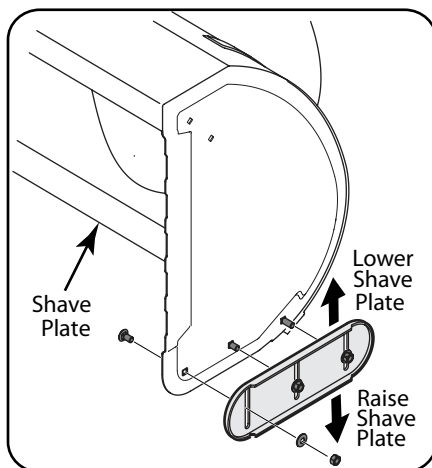

Figure 3-10
1. Adjust skid shoes by loosening the six (three on each side) hex nuts, washers, and carriage bolts securing the skid shoes to the auger housing. Refer to Figure 3-10.
2. While observing the distance between the shave plate and the ground, adjust the skid shoes up or down to achieve the desired shave plate height. See Figure 3-10.